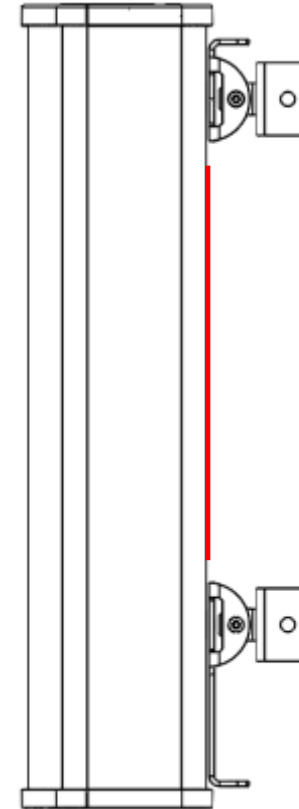

Figure 12: The bracket's face is parallel to the antenna's back face.
4. Make sure that the face of the brackets are parallel to the antenna back face. See *Figure 12*.